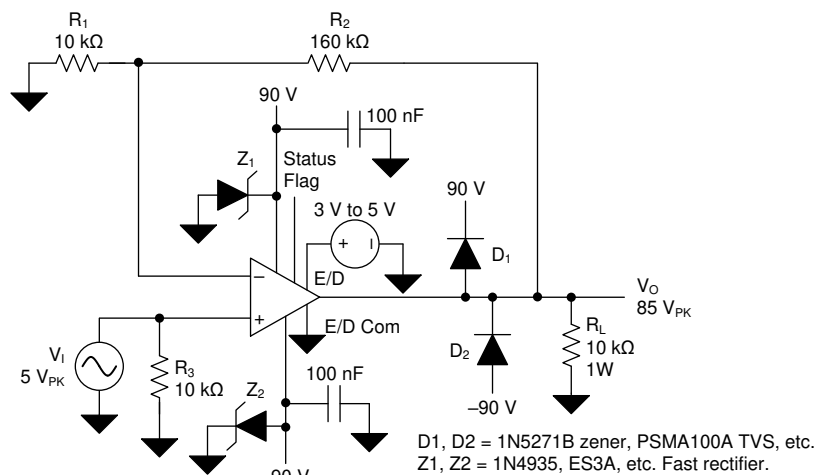

图 61. OPA462, High-Voltage Noninverting Amplifier, $A_V = 17$ V/V
The OPA462 high-voltage op amp can be used in commonly applied op amp circuits, but with the added capability of allowing for the use of much higher supply voltages. A very common application of an op amp is that of a noninverting amplifier with a gain of 1 V/V or higher. 图 61 shows the OPA462 in a noninverting configuration.
图 61 shows a noninverting circuit with a moderately high closed-loop gain (A_V) of 17 V/V (24.6 dB). In this example, a 5- V_{PK} ac signal is amplified to 85 V_{PK} across a 10-k Ω load resistor connected to the output. The peak current for this application is 8.5 mA, and is well within the OPA462 output current capability. Higher output current, typically up to 30 mA, may be attained at the expense of the output swing to the supply rails. A ± 90 - V_{DC} power supply is required for this configuration.
A potentially destructive mechanism is the back EMF transient that can be generated when driving an inductive load. D_1 , D_2 , Z_1 and Z_2 in 图 61 have been added to the basic OPA462 amplifier circuit to provide protection in the event of back EMF. If the voltage at the OPA462 output attempts to momentarily rise above $V+$, D_1 becomes forward-biased and clamps the voltage between the output and $V+$ pins. This clamp must be sufficient to protect the OPA462 output transistor. If the event causes the $V+$ voltage to increase the power supply bypass capacitor, Z_1 , or both, a Zener diode or a transient voltage suppressor (TVS) can provide a path for the transient current to ground. D_2 and Z_2 provide the same protection in the negative supply circuit.
The OPA462 noninverting amplifier circuit with a closed-loop gain of 17 V/V has a small-signal, -3-dB bandwidth of nearly 800 kHz. However, the large-signal bandwidth is likely of greater importance in a high-output-voltage application. For that mode of operation, the slew rate of the op amp and the peak output swing voltage must be considered in order to determine the maximum large-signal bandwidth. The slew rate (SR) of the OPA462 is typically 6.5 V/ μ s, or 6.5×10^6 V/s. Using the 85- V_{PK} output voltage available from the circuit in 图 61, the maximum large-signal bandwidth is calculated from the slew rate formula. 公式 1, 公式 2 and 公式 3 show the calculation process.